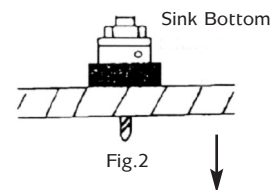

Fig.2
5. Drill straight down from the underside of the sink, until the pilot bit pierces through the sink surface. DO allow the hole saw to cut completely through the sink. (Fig.2)